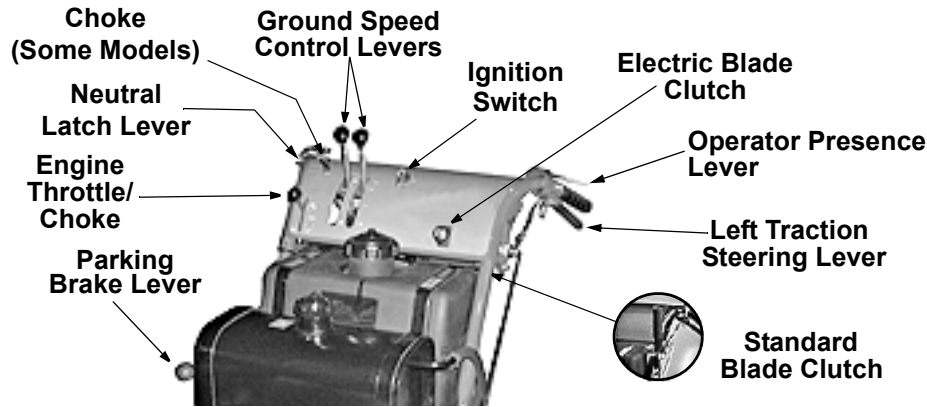

Figure 1
7. **Blade Clutch:** Located on the left handle just below the control panel. This is an over-center belt clutch and when the handle is pushed forward until it snaps to rest, it forces the idler pulley into the blade drive belt which causes the blades to rotate. When the handle is pulled back, the pressure on the belt is relieved and the blades will stop rotating. Figure 1 shows the electric blade clutch located on the control panel. This is an on/off toggle switch that controls the electric blade clutch which supplies power to the cutting blades.